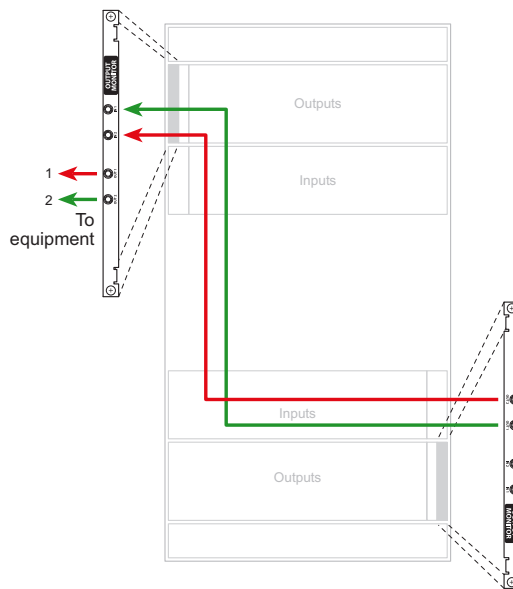

Figure 2-23. Monitor Connections for NV8576 (Rear View)
- For NV8576 or NV8576-Plus, make connections as illustrated in Figure 2-23: